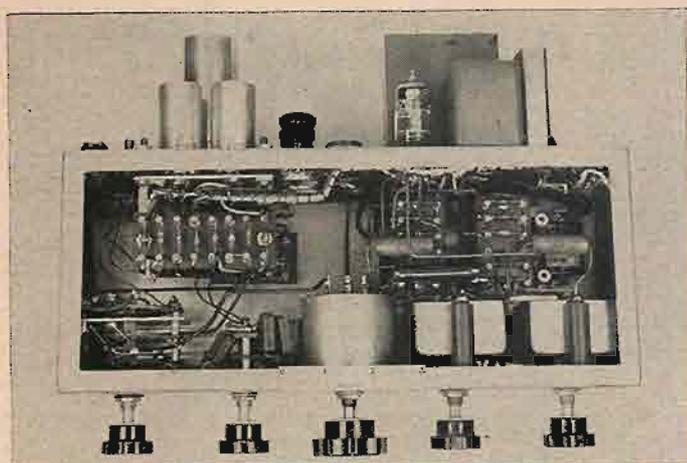

Fig. 3. The complete chassis of the pre-amplifier and equalizer control unit.
distinguish between the desired signal and the undesired pulse, in this case, would be a difficult task, as can be seen from (D). Here, the transient on the left was produced by a tape hole; the disturbance on the right was the desired information in the form of a pulse modulating a 15-kc carrier. Under uncontrolled conditions, recognition would be practically impossible, since both the hole and the signal modulation occur at irregular intervals. The frustrating effect on signal recognition produced by holes in the tape is further illustrated by Fig. 3. Here can be seen the same length of tape first as erased and then as recorded with a signal of 15 kc. Even the minor nodules create an unwanted effect.